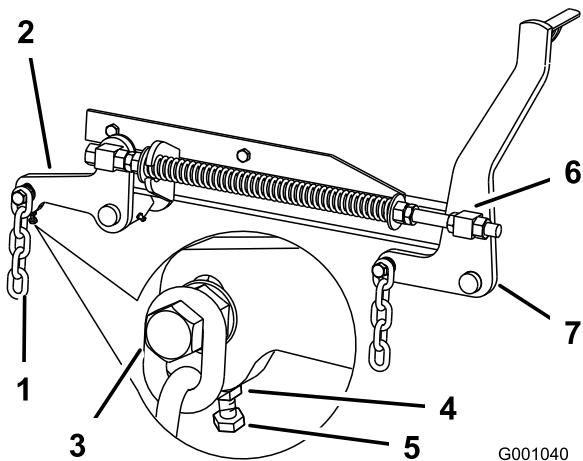

Figure 71
7. If the measurements at positions **B** or **C** are not correct, loosen the bolt attaching the rear chain to the rear support arm (Figure 71).
8. Loosen the jam nut under the rear support arm and adjust the adjustment bolt to get a measurement of 3-1/8 to 3-1/4 inches (80 to 83 mm) (Figure 71).
7. Loosen the front swivel jam nuts, at the front of the right and left swivels, approximately a 1/2 inch (13 mm) (Figure 71).
8. Adjust the lift nuts on both the left and the right side of the machine to achieve 1/4 to 3/8 inch (6 to 10 mm) lower in front at **A** than in the rear at **B** (Figure 71).